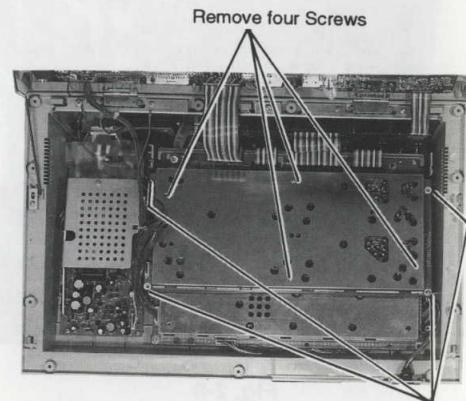

Fig. 2-3
- Referring to the Fig. 2-3, remove four screws fixing the Shield Cover and remove the Shield Cover, and then remove four screws fixing the Analog Board to the Bottom Cover.